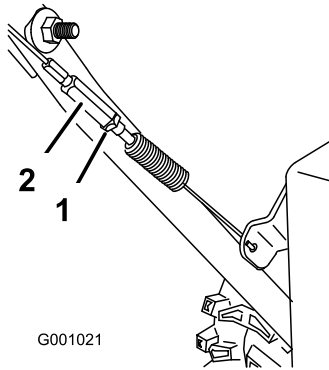

Figure 35
- Tighten the jam nut (Figure 35).